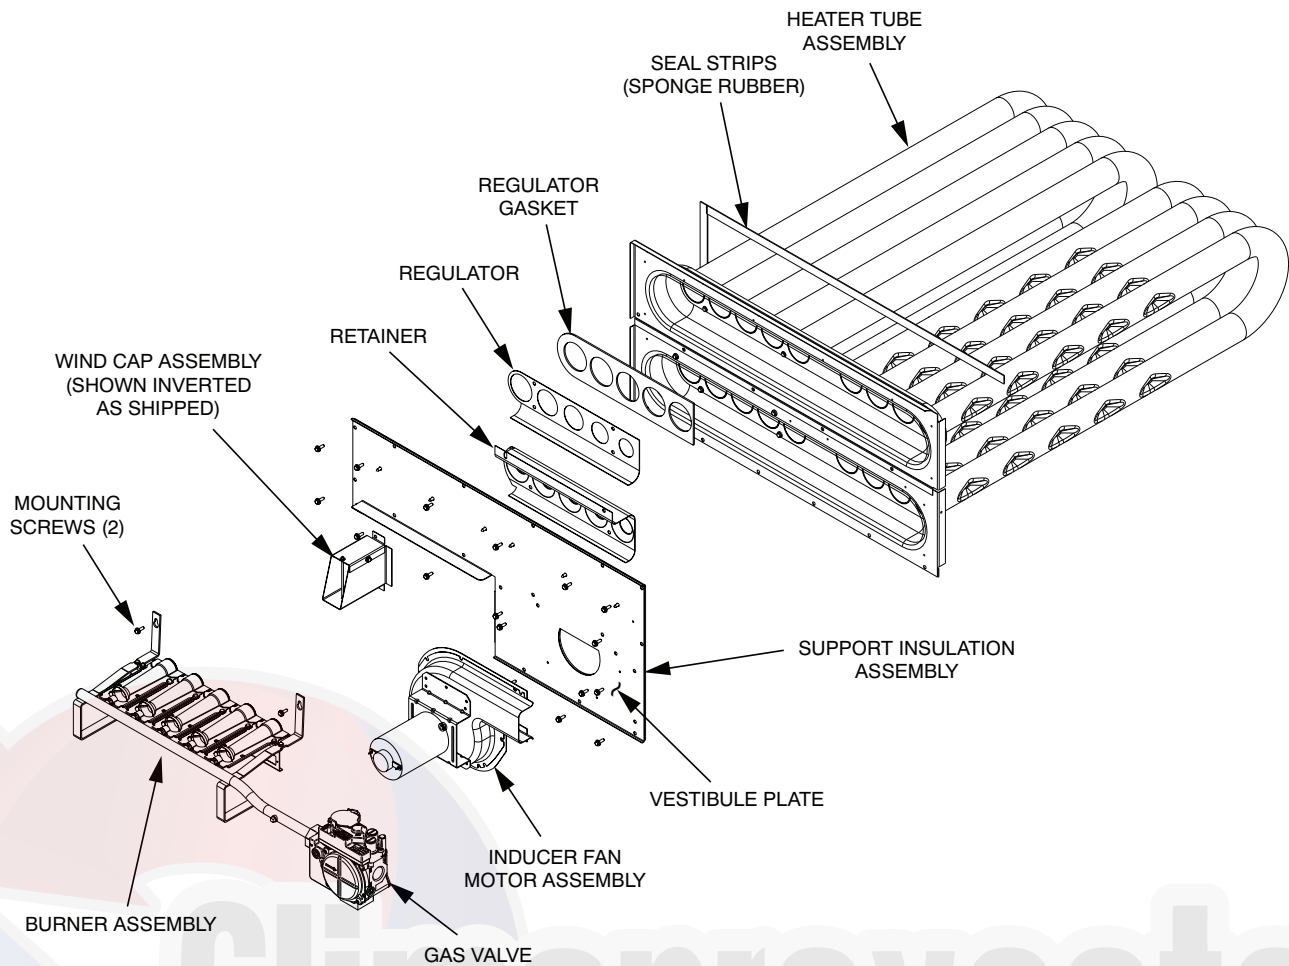

Fig. 53 - Typical Heat Exchanger Assembly
1. Remove the combustion blower wheel and motor assembly according to directions in Combustion-Air Blower section. See Fig. 53.
1. Remove the seven screws attaching the induced-draft motor housing to the vestibule plate. See Fig. 53.